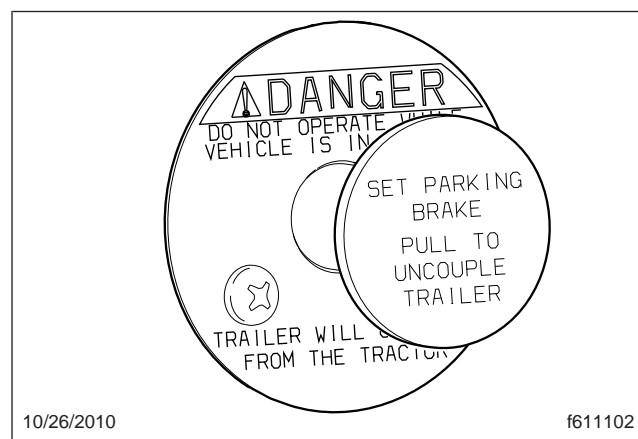

Fig. 17.7, Air-Actuated Kingpin Release Valve
An air-actuated kingpin release valve is optional with any fifth wheel. See Fig. 17.7.
2. Pull and hold the kingpin release valve (Fig. 17.7) until the kingpin lock mechanism opens and locks in place.